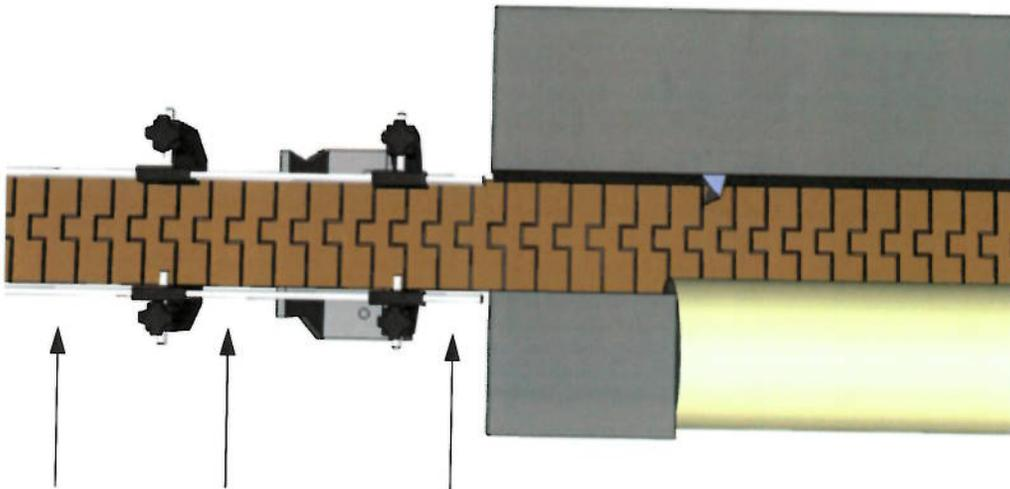
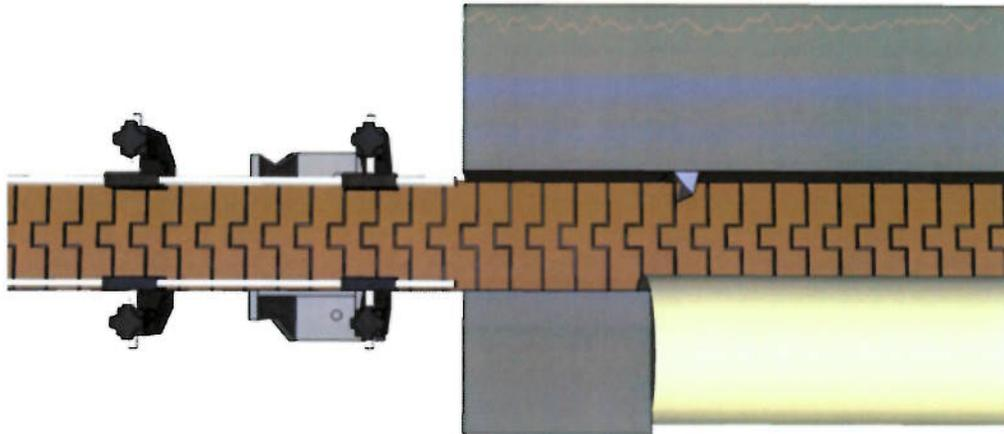

fig.14
fig.15
- Conveyor belt sides at machine entrance (fig.14) must be always aligned with the feed screw. It is then advisable to adjust them after performing a feed screw type change (fig.15).